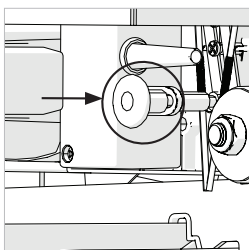

Fig. 17
- Lower the Cutting Head to the fully down position, 'capturing' the Lower Auxiliary Blade Guard. Push the Cutting Head Latching Pin into its socket. **(Fig. 17)**